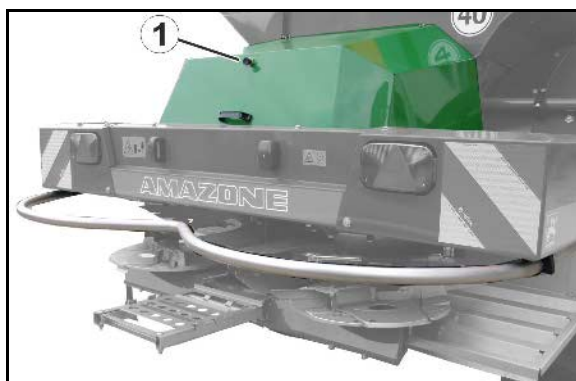

Fig. 73
1. Unscrew the two cover plates (Fig. 73/1) on the inside of the brake drum.
Dirt entering the drums may be deposited on the brake pads (Fig. 73/2) and thus appreciably reduce brake performance.